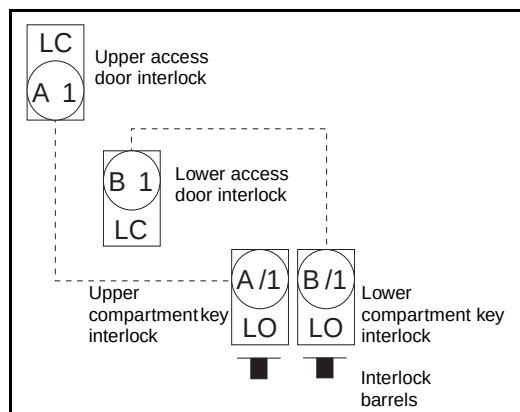

Figure 41: Interlock Status (Step 5)
5. Lock open (LO) both key interlocks to retract both interlock barrels (see Figure 41 for interlock status).